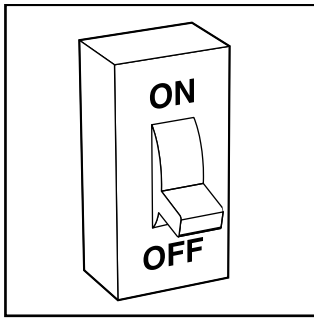

Fig. 6 – Turn Off Electrical Supply
3. Turn OFF electrical supply to the furnace (see Fig. 6).
3. Turn off electrical supply to the furnace (see Fig. 6).